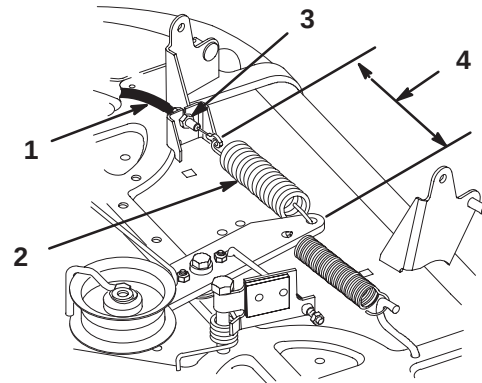

**Figure 43**
10. Remove first jam nut and thread second jam nut onto the blade control (PTO) cable all the way. Rout cable through slot in deck bracket and thread second jam nut onto cable (Fig. 43).
11. Hook end of blade control (PTO) cable onto idler spring (Fig. 43).